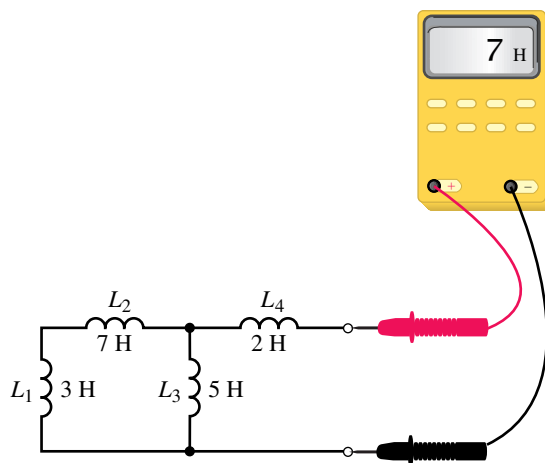

FIGURE 13-44
35. In Figure 13-44, an inductance meter measures 7 H. What is the likely fault?